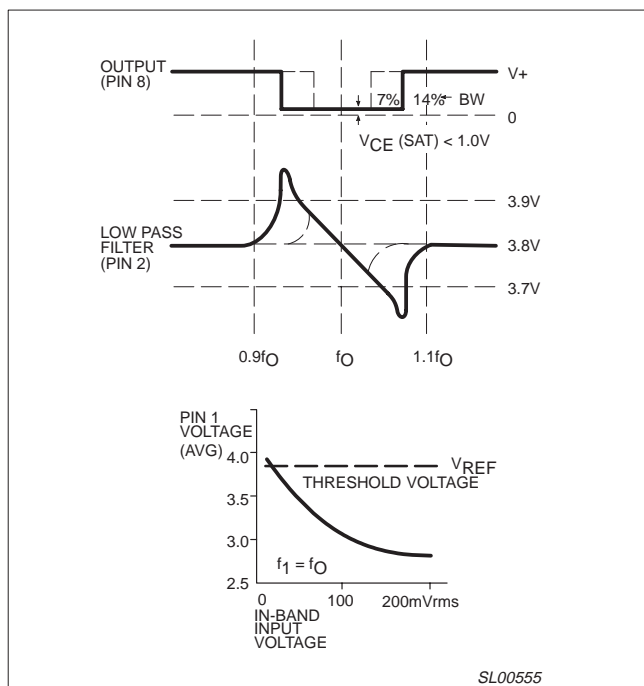

Figure 18. Available outputs
**AVAILABLE OUTPUTS** (Figure 18)